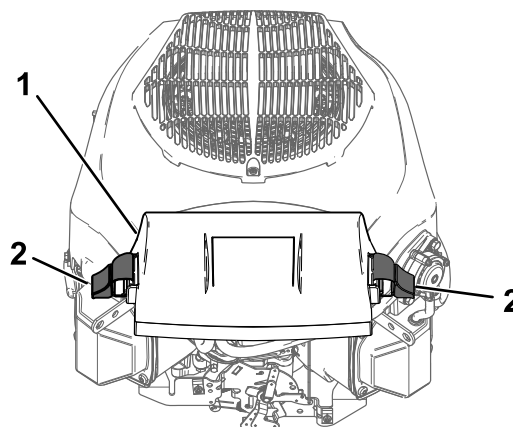

Figure 43
3. Install the cover and secure it with the retaining clamps (Figure 43).